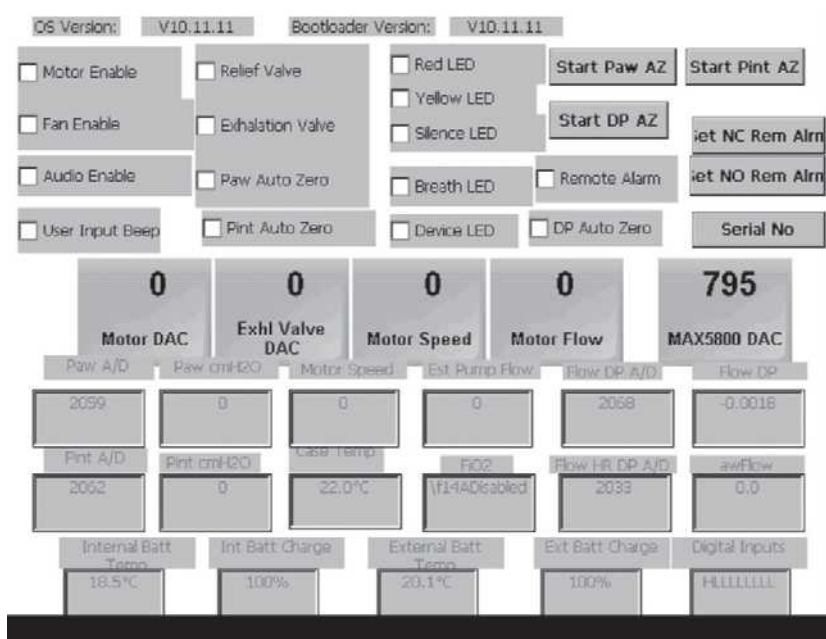

Figure 6.5 – Service Screen for the HT70 Classic
- 1) Turn on the ventilator and hold “cancel” until the Service screen comes up – Figure 6.5.